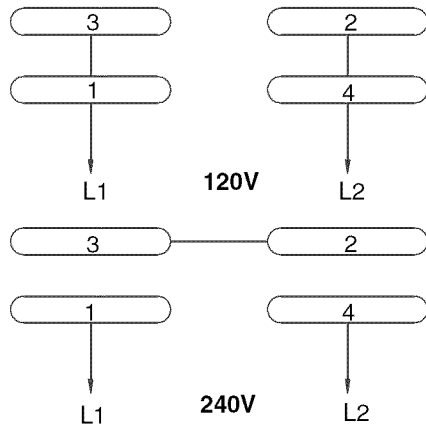

Figure 6 - Wiring Schematic
- See wiring diagram (Figure 6) for wiring instructions.